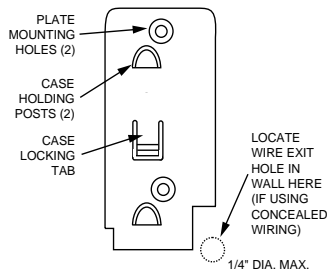
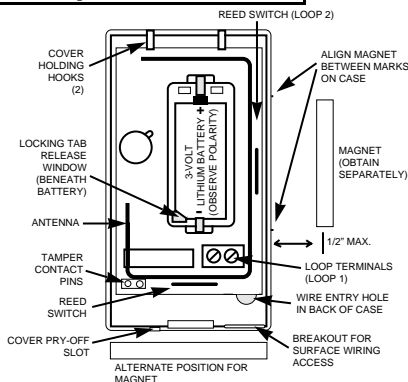

Figure 1. Mounting Plate
Figure 2. 5816MN (shown without cover)
The description that follows assumes that the unit will be mounted as shown in the diagrams, with the magnet (if used) located in one of the positions shown in Figure 2. The unit may, however, be installed in any direction, as long as the relationship of the unit to its mounting plate and (if used) magnet is maintained.
1. Remove the transmitter's cover by inserting the flat blade of a small screwdriver into the pry-off slot at the end of the unit farthest from the cover's decorative ribs (see Fig. 2 for location), and twist the blade.
driver into the locking tab release window (see Fig. 2) and pressing it against the locking tab (shown in Fig. 1), while sliding the plate downward along the case back.
Note: If a wired contact loop is to be used, with concealed wiring, the wire exit hole in the wall should be in the location shown in Figure 1, and no more than 1/4" in diameter.
4. If a wired contact loop is to be used, feed concealed wiring through the slot in the case back, but do not connect to the terminal block yet. For surface wiring entry, a thin "breakout" area is provided in the case wall (see Fig. 2 for location).
6. If one of the reed switches in the unit is to be used, a No. 5899 Magnet (obtain separately) should be mounted adjacent to the alignment marks on the right side of the case, or adjacent to the bottom of the case (see Fig. 2).
With the battery still not inserted, connect the contact loop wires to the unit's loop terminals (see Fig. 2).
2. **Observe correct polarity and insert the battery** provided into the battery holder (see Fig. 2). *Take care not to bend the antenna.*